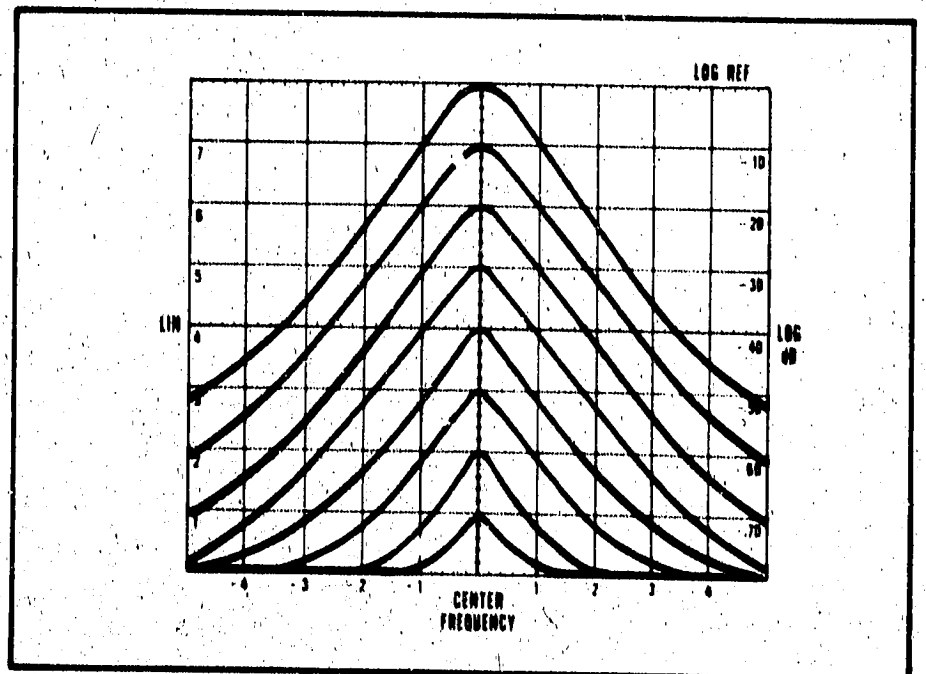

Figure 4-2. Vertical Gain Adjustment
g. Adjust the LOG REF LEVEL controls so the maximum signal amplitude is exactly on -70 dB graticule line. Rotate LOG REF LEVEL control seven steps in the clockwise direction. The amplitude of the signal should increase in increments of one division per 10-dB step. See Figure 4-2.
h. Adjust VERTICAL GAIN to place maximum signal amplitude exactly on LOG REF (top) graticule line, Figure 4-2. Repeat Steps g and h to obtain optimum adjustment of VERTICAL GAIN (increments as close to one division per 10 dB step as possible).